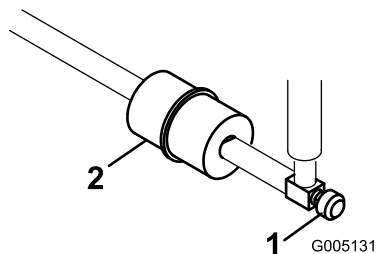

Figure 51
An in-line filter is incorporated into the fuel line between the fuel tank and carburetor (Figure 51). Replace the filter every 800 hours or sooner if the fuel flow is restricted. Be sure the arrow on the filter is pointing away from the fuel tank.
1. Close the fuel shut off valve, loosen the hose clamp on the carburetor side of filter, and remove the fuel line from the filter (Figure 51).
2. Place a drain pan under the filter, loosen the remaining hose clamp and remove the filter (Figure 51).